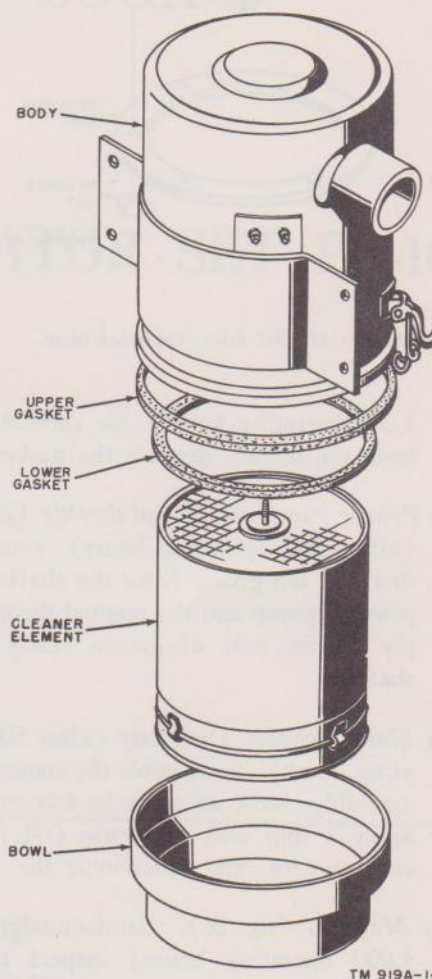

Figure 14. Air cleaner, exploded view.
a. Air cleaner (fig. 14). To check the quantity of oil in the air cleaner, disassemble the bowl from the body by loosening the spring clips, and see that oil is up to the caution level. Add oil as necessary. Reassemble the bowl to the body; be sure the clips are secure.
- (2) *Air Cleaner* (fig. 14). Check the quantity of oil in the air cleaner bowl weekly (after 50 operating hours). If the oil is below the caution level, add oil (OE) up to the normal level of the bowl. At monthly intervals (after 250 operating hours), remove the air cleaner element and wash it in solvent (SD). At the same time, clean the air cleaner bowl and refill with engine oil (OE). To remove the element, remove the bowl and unscrew the wing screw located on the bottom of the element housing. Then pull the element out of the housing. (The wing screw does not come out of the element.)